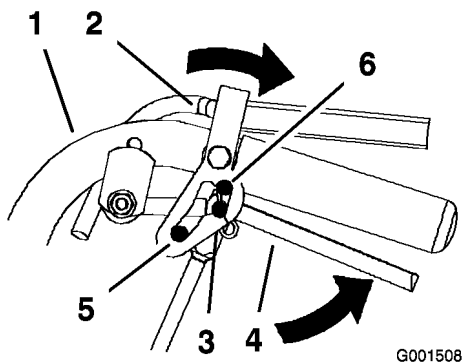

Figure 9
2. Place thumbs on the upper part of the locks and move them back (Figure 9).